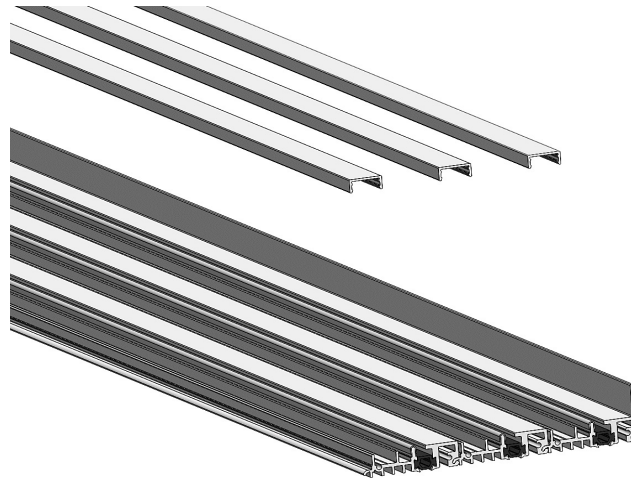

Figure 3
13. Set the sill assembly onto the bed of sealant and align sill with marks on the floor. Shim the sill assembly as required with a maximum spacing of 6" and secure the frame with adequate anchor screws for your application. Shims to be spaced no more than 6" apart. Once the sill is anchored to the floor, verify that it is 100% flat and level in all directions. After verification, locate and apply all snap-in beauty covers to conceal anchor screws and create a flat surface for the panels to seal against. See **Figure 3**.